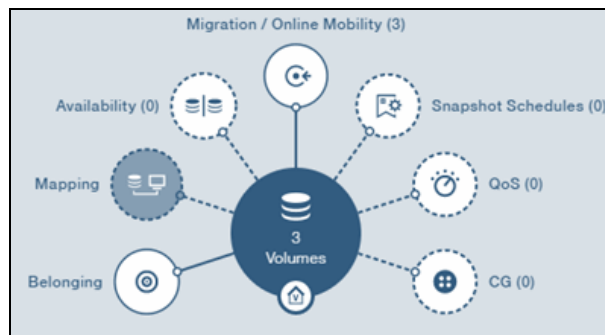

Figure 7-21 Selecting the Mapping element in the Hub
- Now that the Proxy phase is successfully initiated, the newly created destination volume is ready to map to the host on the destination system. Select the destination volumes in the Volumes tab and choose the Mapping element in the Hub display on the right, as shown in Figure 7-21.